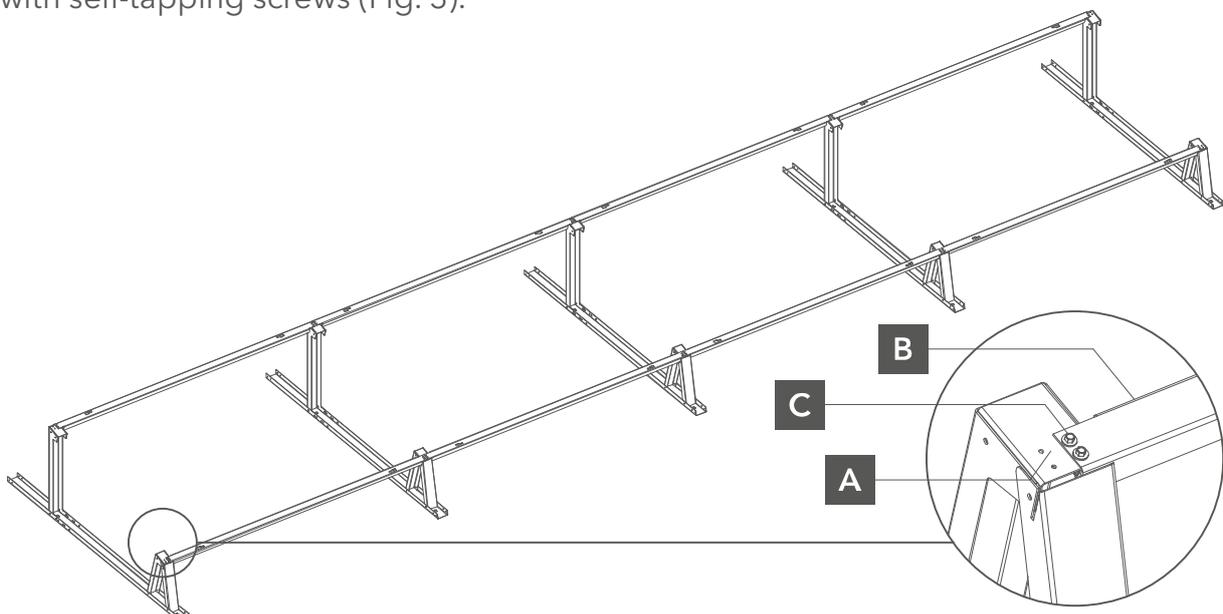

Fig. 3. attachment of the beam to the mounting triangle
- 2 Under the lower base of the mounting triangle it is necessary to put a SBR rubber mat. After that, align the roof battens with the mounting triangle and fix them with self-tapping screws (Fig. 3).